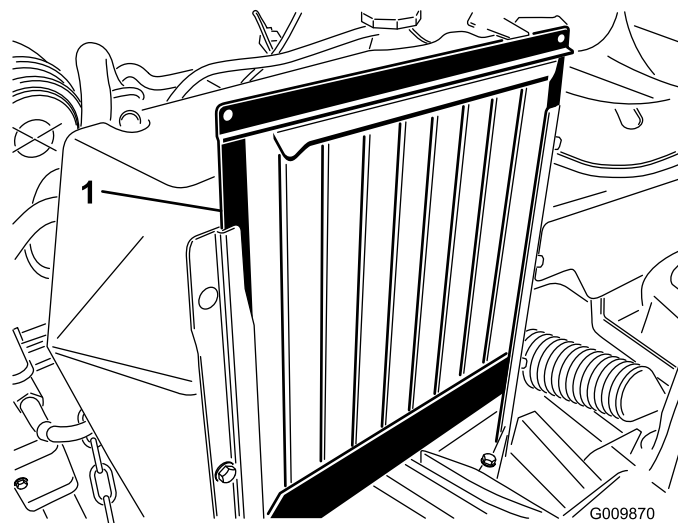

Figure 53
1. Remove the radiator screen and clean and debris off of it (Figure 53).